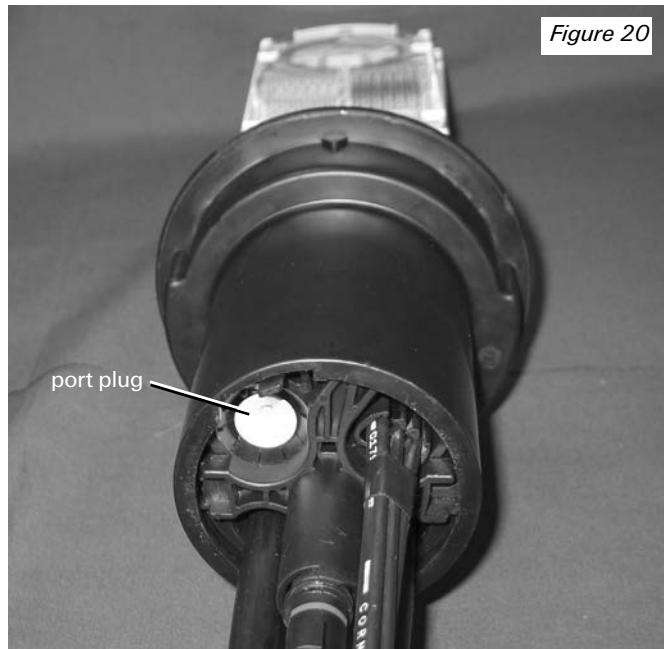

Figure 20
5. Insert one port plug in each unused port (Fig. 20)